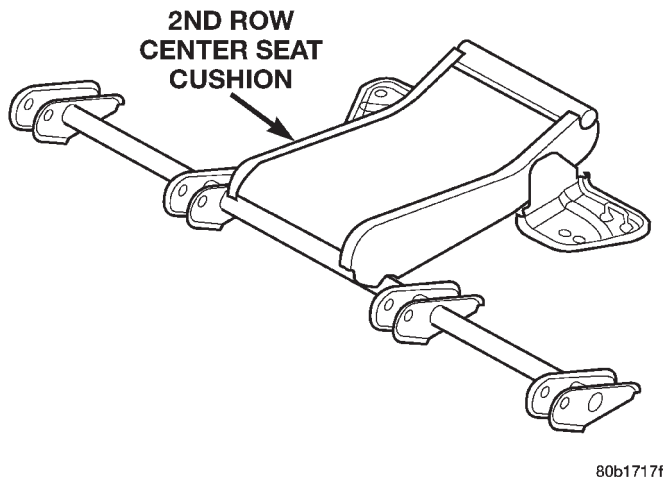

Fig. 11 2nd Row Center Seat Cushion
- (1) Remove 2nd row seat assembly.
- (2) Remove outboard seats (Fig. 11).